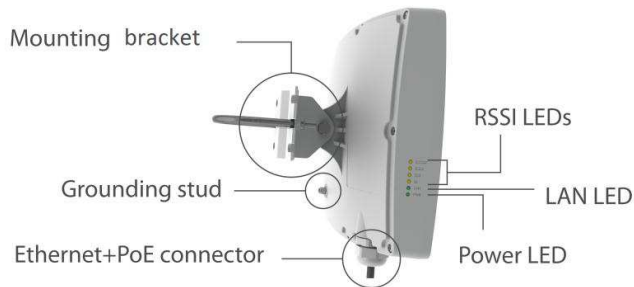

Figure 2 – APC 5M-18 V2 Overview
Step 2. Ground the APC 5M-18 V2 unit. The unit must be properly grounded to protect against lightning. The grounding wire must be attached to the grounding stud on the unit (refer at the *Figure 2 – APC 5M-18 V2 Overview*).